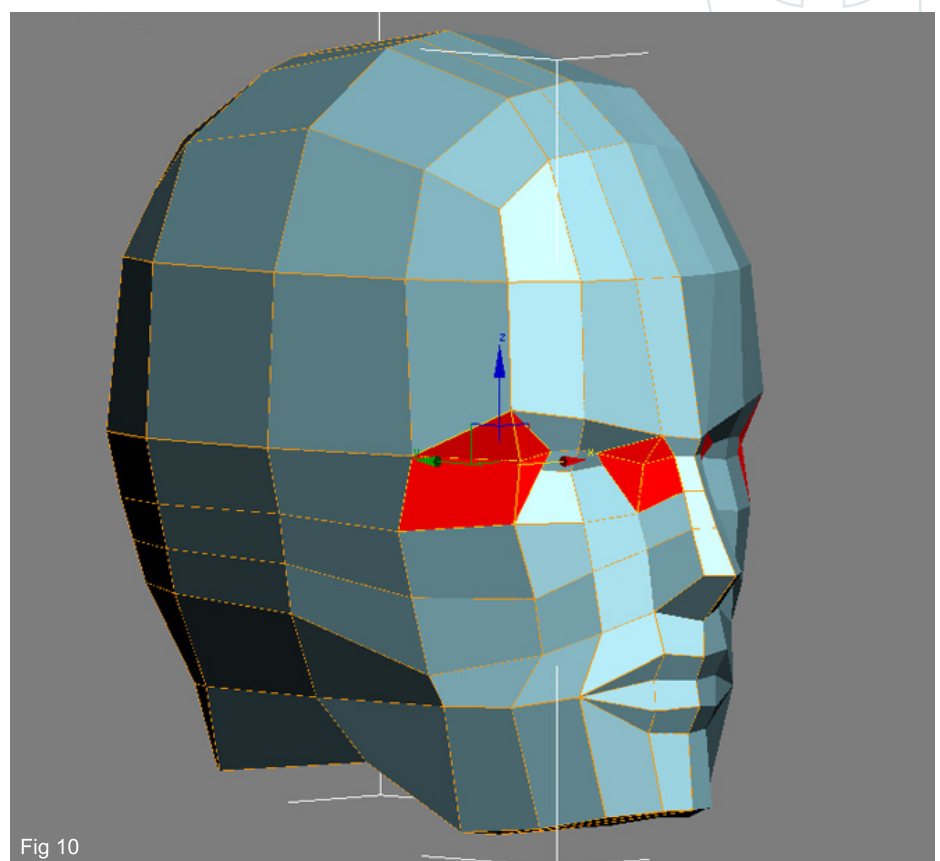

Fig 10
10. Now we are working purely on the left side of the head select the poly's highlighted in red in Fig10 and use the "Cut" tool to make two horizontal cuts joining the middle verts. This will help create a more convincing socket shape for the eye and remove the sharp angle apparent in Fig08.